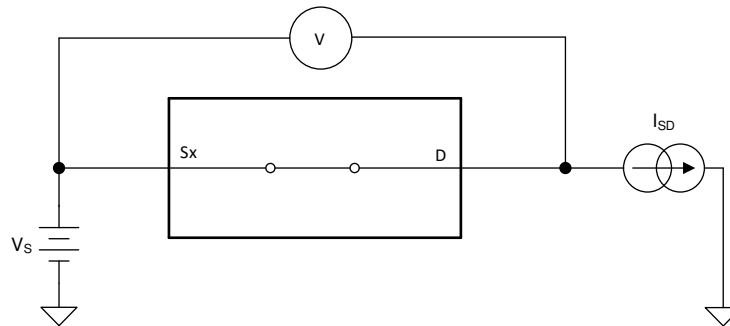

Figure 18. On-Resistance Measurement Setup
The on-resistance of a device is the ohmic resistance between the source (Sx) and drain (D) pins of the device. The on-resistance varies with input voltage and supply voltage. The symbol  $R_{ON}$  is used to denote on-resistance. The measurement setup used to measure  $R_{ON}$  is shown in Figure 18. Voltage (V) and current ( $I_{SD}$ ) are measured using this setup, and  $R_{ON}$  is computed with  $R_{ON} = V / I_{SD}$ :